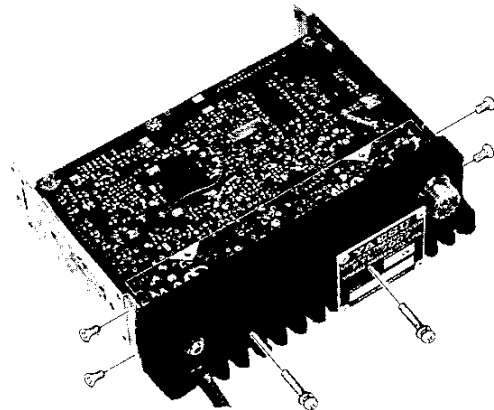

Figure 5c
- d) Referring to Figure 5c, remove the two black screws in the heatsink and the two screws on each side.